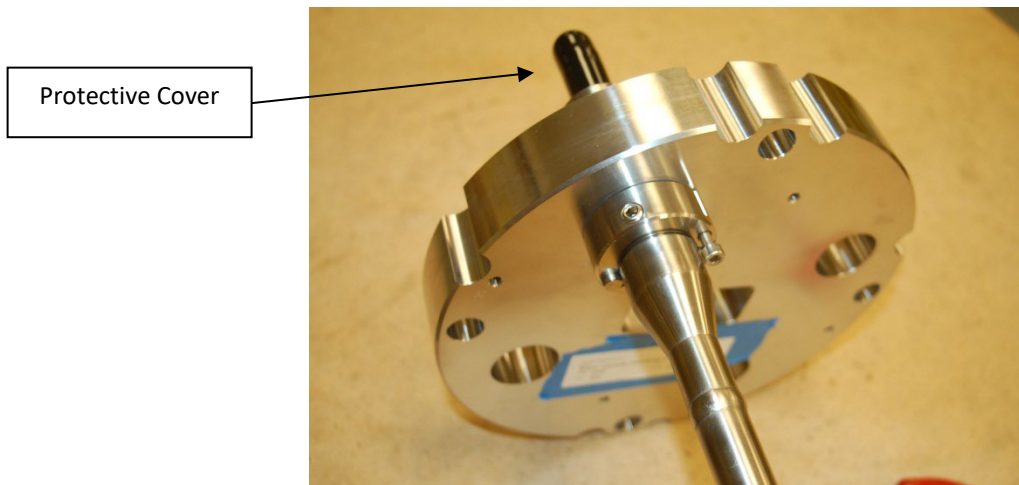

Figure 75: Coupler Assembly Step 4
- 26.5.9 Install the SHCS onto the C-clamps to hold them together. The threaded pin is used to prevent clamp rotation. Torque SHCS to 40 in-lb (4.5 N m). Refer to Figure 75.